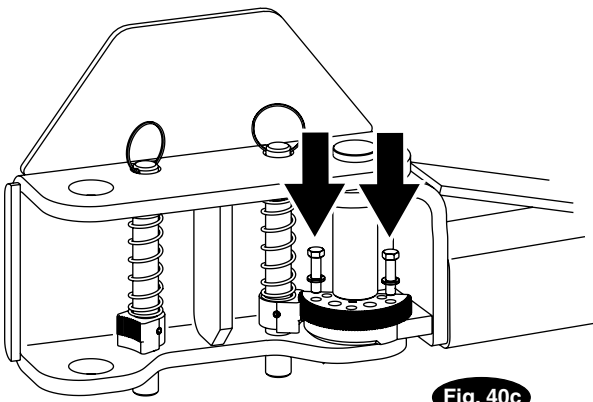

Fig. 40c
Then, install the (2) 3/8"-16NC x 1-1/2" HHCS (8 total for all 4 arms) and 3/8" Spring Lock washers into the gear and arm, but do not tighten. Reference Fig. 40c, Fig. 41, and Fig. 42.